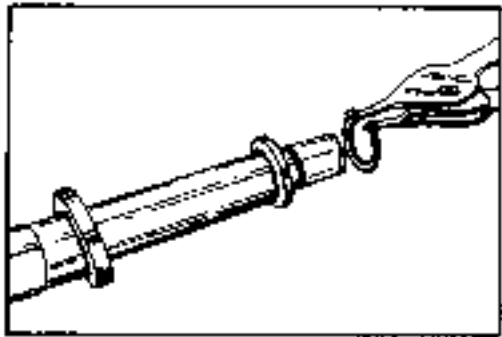

FIGURE 37.
Using appropriate external retaining ring pliers, remove the retaining ring (34) from the input shaft/wheel tube (33). See figure 37. Discard, if deformed or broken.